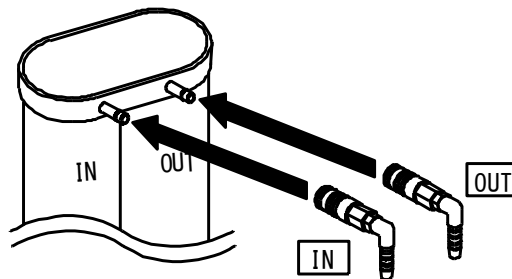

Fig.3
6. Fit in the coupler marked with (IN) to the inlet of ion exchange resin cartridge (left) until click is heard and repeat the procedure in the same way for high-purity cartridge. (See Fig.3.)
7. Fit in the coupler marked with (OUT) to the outlet of ion exchange resin cartridge (right) until click is heard and repeat the procedure in the same way for high-purity cartridge. (See Fig.3.)